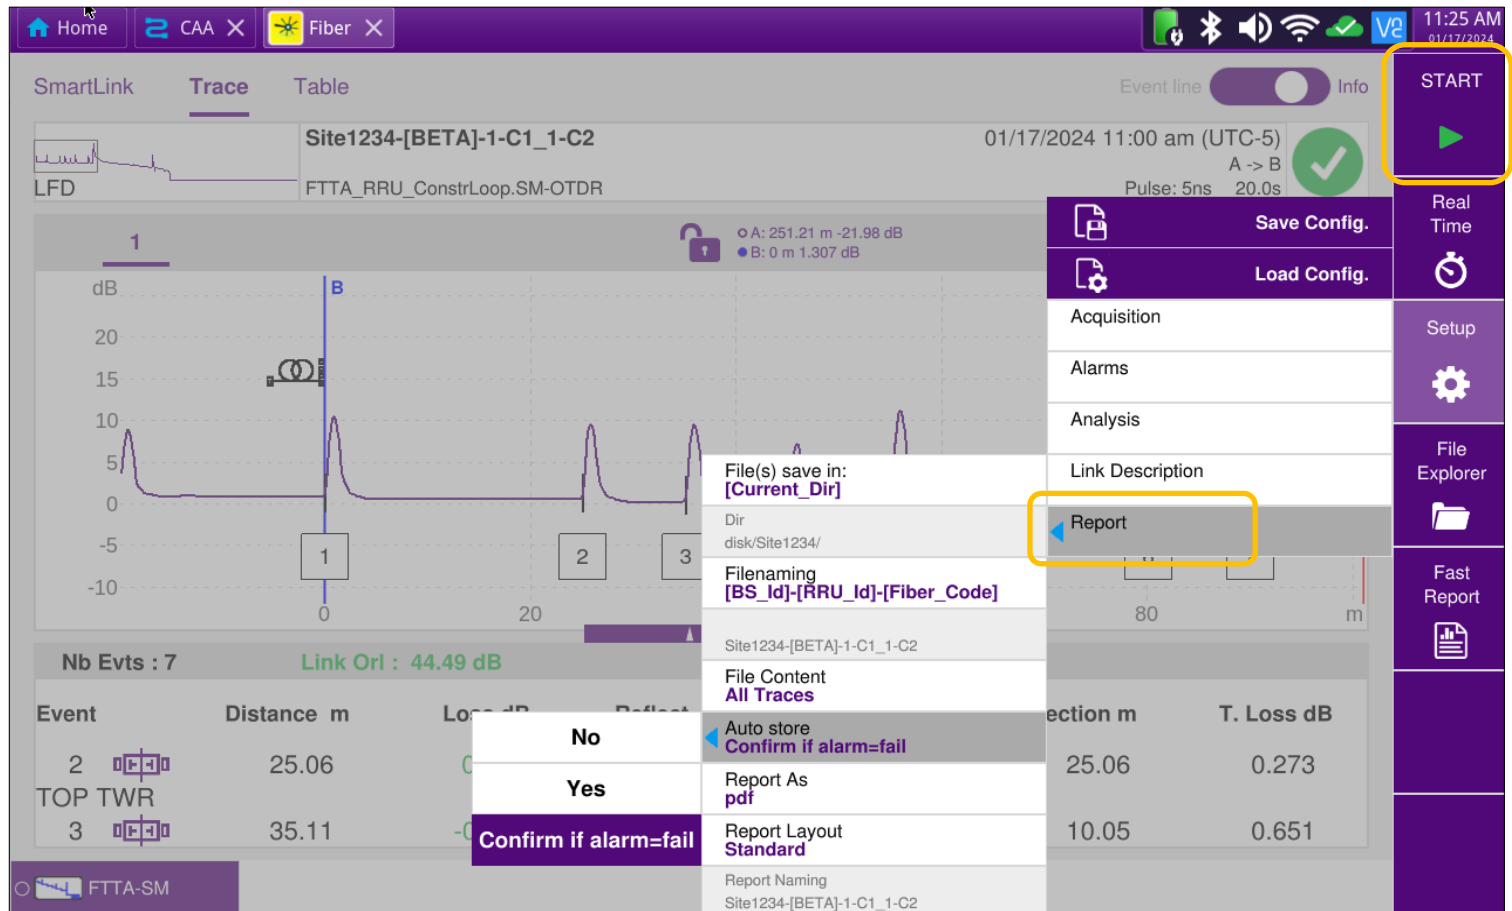

Figure 11: Setup example – Report Category
7. Configure **Report** (Figure 11 below) settings as follows: